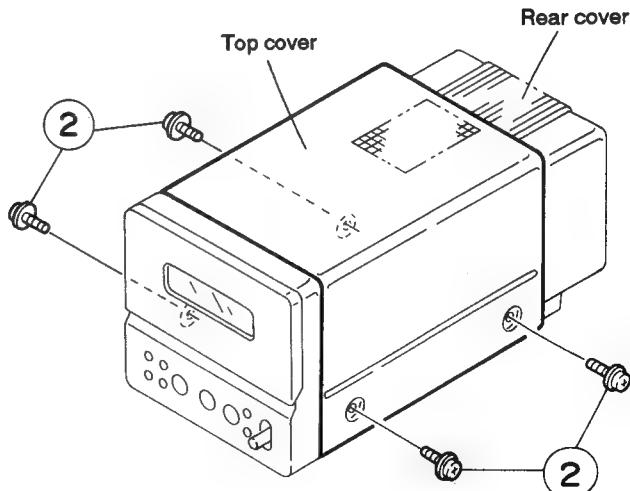

Fig. 5-5
■ Removing the top cover (See Figs. 5-5 and 5-6)
1. From both sides of the body, remove the four screws ② retaining the top cover (See Fig. 5-5).